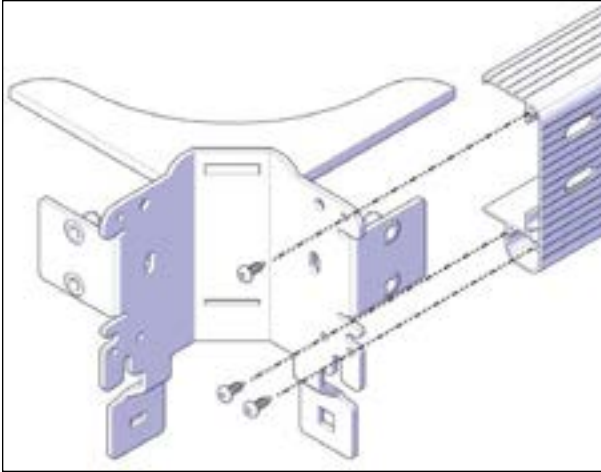

FIGURE 42: CORNER BRACKET INSTALLATION
5. Insert the inner corner brackets in both ends of the C- channels remaining. Use the provided Robertson sheet metal #8 x 3/4 in. screws on the inside holes Figure 42.